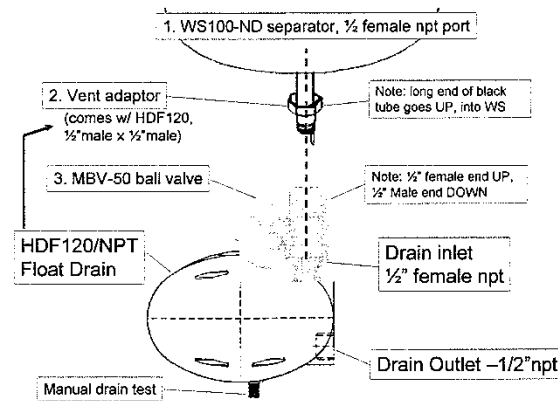

Figure 6-6 – WATER SEPARATOR AND DRAIN DETAILS
4. Unscrew drain valve (1) from isolation valve (5).
5. Unscrew collection bowl (3) from separator housing (4).
7. Reinstall in reverse order. If the vent adaptor has been removed from the bowl, note its location and orientation in relation to the bowl (5) – see detail Figure 6-6. The long end of the black tube attached to the vent adaptor must protrude upward into the bowl (5) during installation. This is necessary to promote adequate gas venting during liquid drainage.